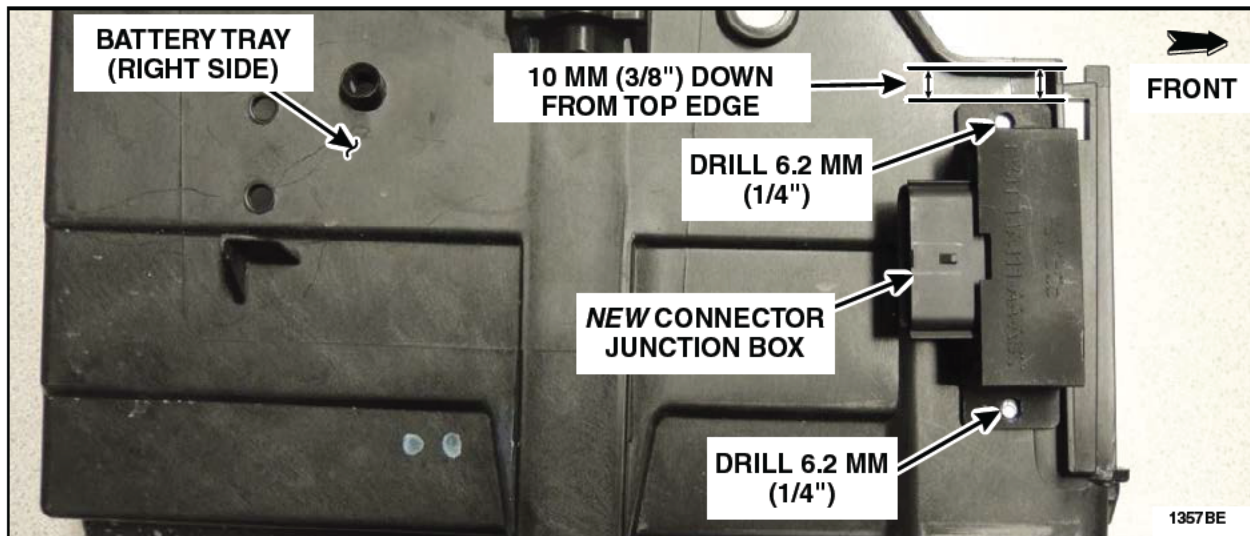

FIGURE C1
Using the dimensions shown below, mark and drill the locations of the two (2) holes that are required for the *new* connector junction box, in the right side of the battery tray. See Figure C1.
- a. Position the *new* connector junction box on the forward right side of the battery tray, 10mm (3/8") down from the top edge of the battery tray. Using the *new* connector junction box as a template, mark the two (2) hole locations on the battery tray. See Figure C1.